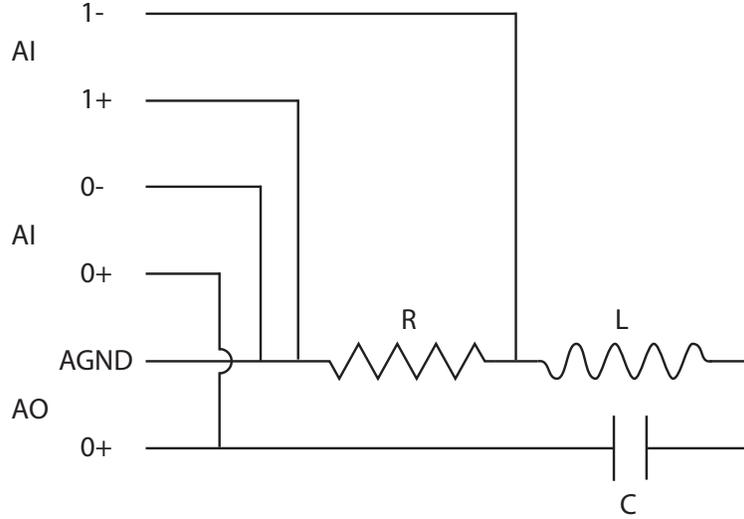

Figure 14:
The circuit you will build to test these ideas is called an RLC resonant circuit, where an inductor, capacitor and resistor are connected in series. The series combination will be connected to a sinusoidal voltage source, and the voltage across only the resistor is the output voltage. The circuit is shown in figure 14. You will vary the frequency of the input voltage and measure the response of the output voltage. At low frequency, we know that the impedance of the capacitor Z_C will be high, and thus since $V_C = IZ_C$ all the voltage will be across the capacitor, leaving zero voltage across the resistor (which is the voltage we are measuring). At very large frequency, the impedance of the inductor will be large, the entire voltage will be across the inductor and again the voltage across the resistor will be small. Somewhere in the middle, the inductor and capacitor will effectively cancel each other out, and the entire voltage will be across the resistor. The frequency at which this occurs is called the resonant frequency, and is determined by
- Connect the myDAQ channels as shown in Fig. 14. Choose a $1\mu F$ capacitor, the $1k\Omega$ and large inductor. Note that the power for the circuit comes from the white wire in Ch. A01 and is then grounded with the green wire. Be careful to make sure you are measuring the voltage properly over the correct elements with CH0 and CH1.